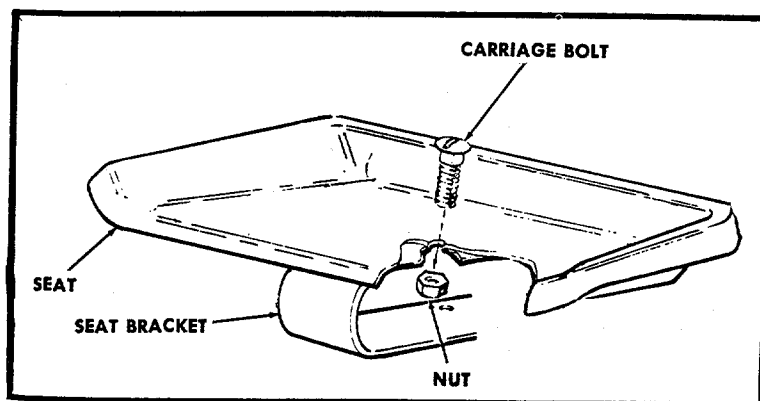

FIGURE 2. SEAT ASSEMBLY
Step 1. Assemble the seat to the seat bracket with the large carriage bolt and nut. See figure 2.